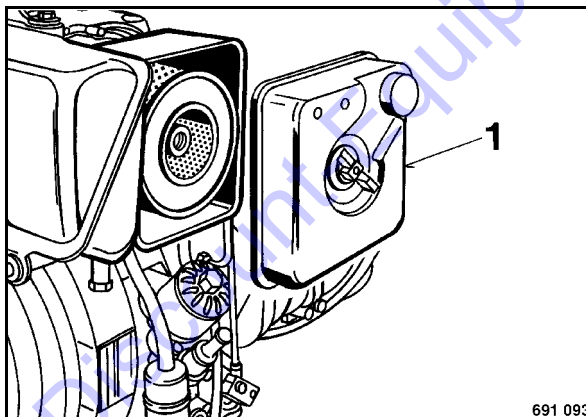

Fig. 80
- Unscrew the wing nut for cover (1) (Fig. 80) and take off the cover.